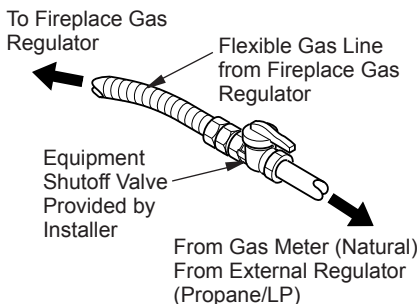

Figure 16 - Attaching Gas Lines Together
NOTICE: Most building codes do not permit concealed gas connections. A flexible gas line is provided to allow accessibility from the fireplace (see Figure 16). The flexible gas supply line connection to the equipment shutoff valve should be accessible.
3. Attach the flexible gas line to gas supply (see Figure 16). Check tightness of flexible gas line attached to gas regulator of fireplace (see Figure 16).